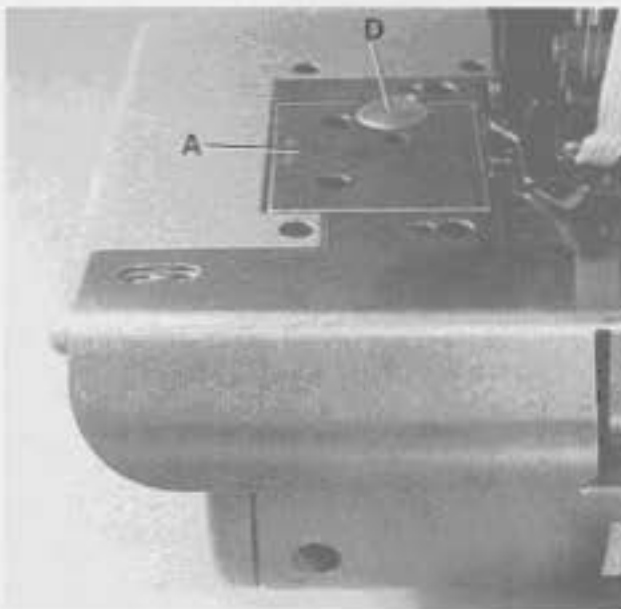
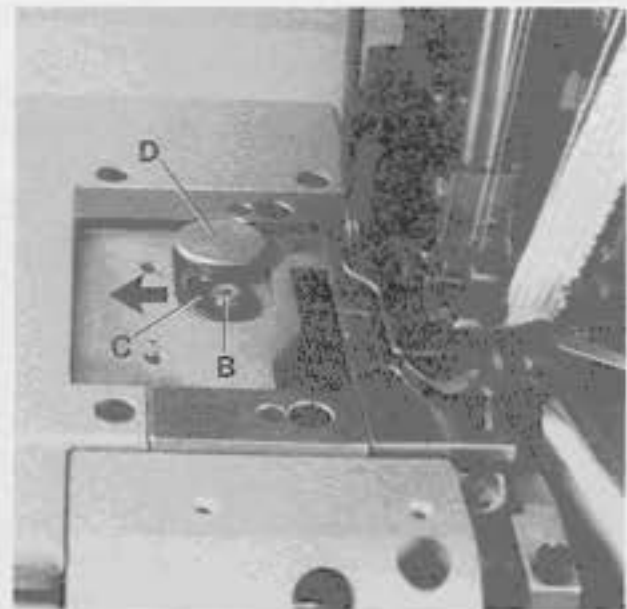
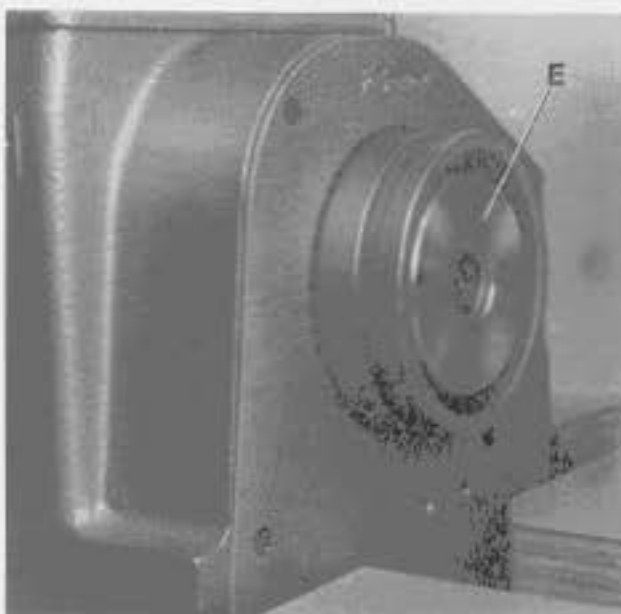

Fig. 33
Fig. 34
Fig. 35
Before the machine leaves the factory, the stitch length change mechanism is locked. After removing cover (A, Fig. 33) and loosening screw (B, Fig. 34) lever (C) can be swung in the direction of the arrow to the left to unlock the stitch length change mechanism. The required hexagon socket wrench is a component of the machine accessories.
The stitch length is changed by slightly pressing push button (D, Fig. 33 and 34) and simultaneously rotating pulley (E, Fig. 35). Within one revolution of the pulley push button (D, Fig. 33) engages and the stitch length change starts. Rotating pulley clockwise shortens the stitch, rotating it counter-clockwise increases the stitch.